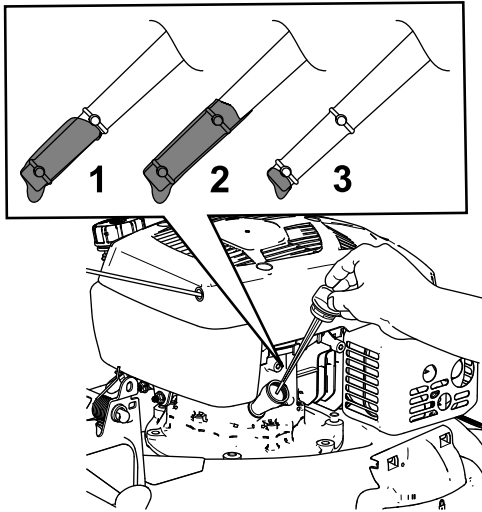

Figure 8
2. Remove the dipstick by rotating the cap counterclockwise and pulling it out (Figure 8).